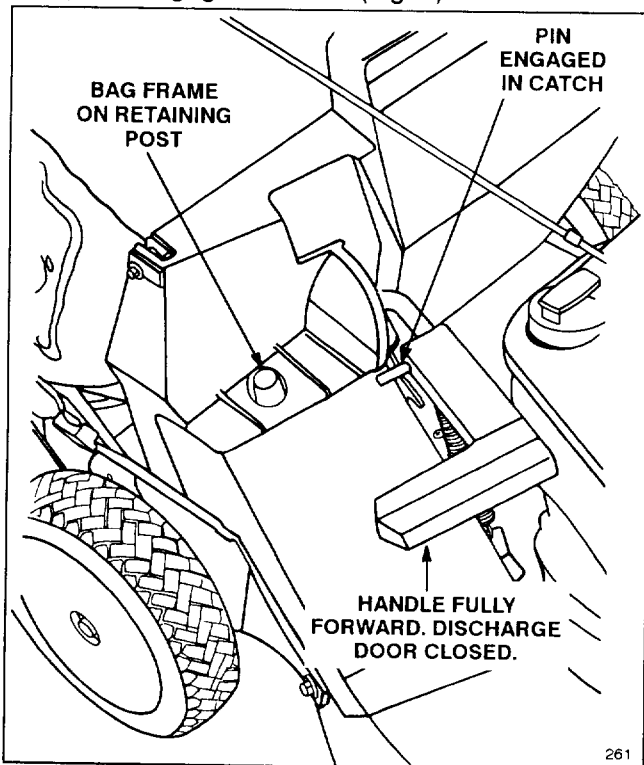

Figure 6
2. Ensure discharge door handle is fully forward and pin is engaged in catch (Fig. 6).
3. **INSTALLING BAG**—Slide hole in bag frame onto retaining post on discharge tunnel (Fig. 6) and set rear of bag frame onto lower handle.
5. **EMPTYING BAG**—Stop engine and wait for all moving parts to stop. Lift discharge door handle straight up and move it forward to engage the locking pin with catch (Fig. 6). Grasp bag frame handle and rear of grass bag and lift bag off mower. Gradually tip bag forward to empty clippings.